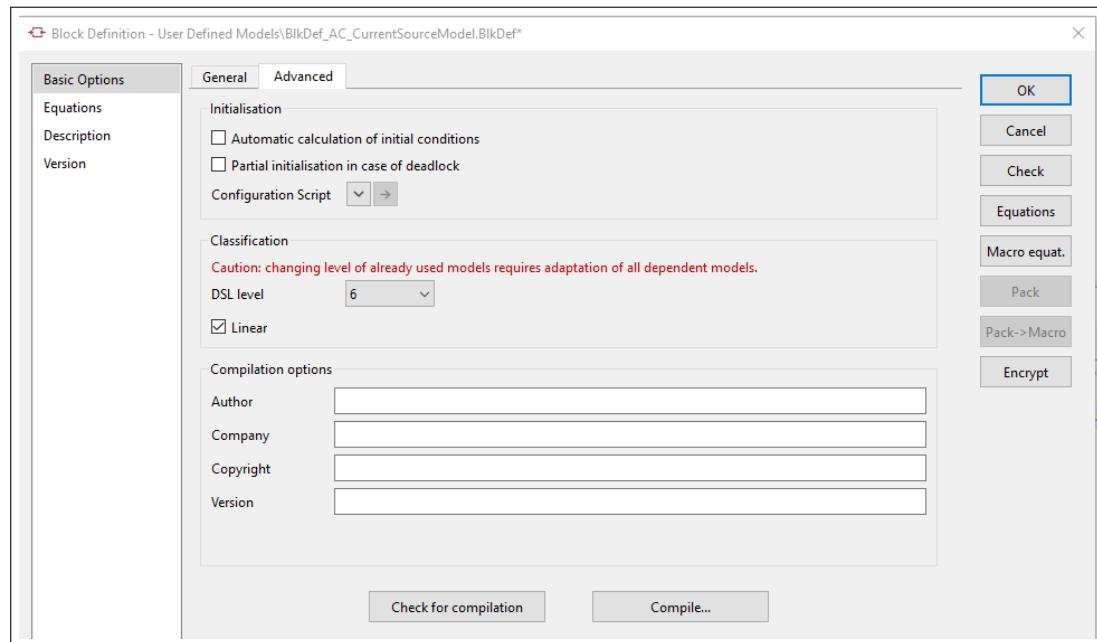

Figure 30.6.1: Block Definition dialog, *Basic Data* page, *Advanced* tab
- Open the *Advanced* tab of the Block Definition dialog as shown in Figure 30.6.1;